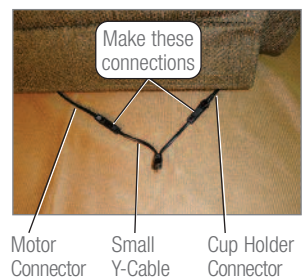

FIGURE 13
- Connect the power supply to the small Y-cable (FIGURE 13).